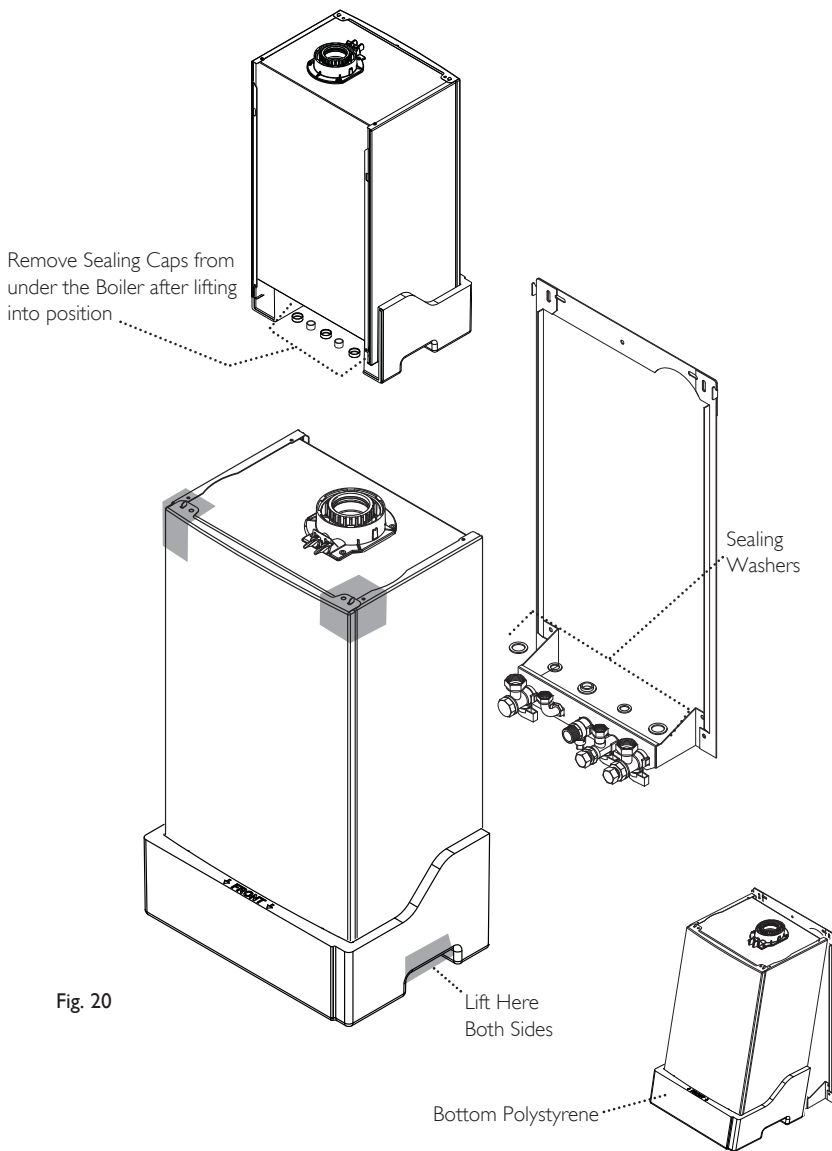

Fig. 20
### 9.6 Fitting The Boiler (Fig. 20)
1. Lift the boiler using the Lifting Points as shown by the shaded areas (Fig. 20). The boiler should be lifted by TWO PEOPLE. Engage the slots at the top rear of the boiler on the wall plate (Fig. 20) (see **Safe Manual Handling** page 5).